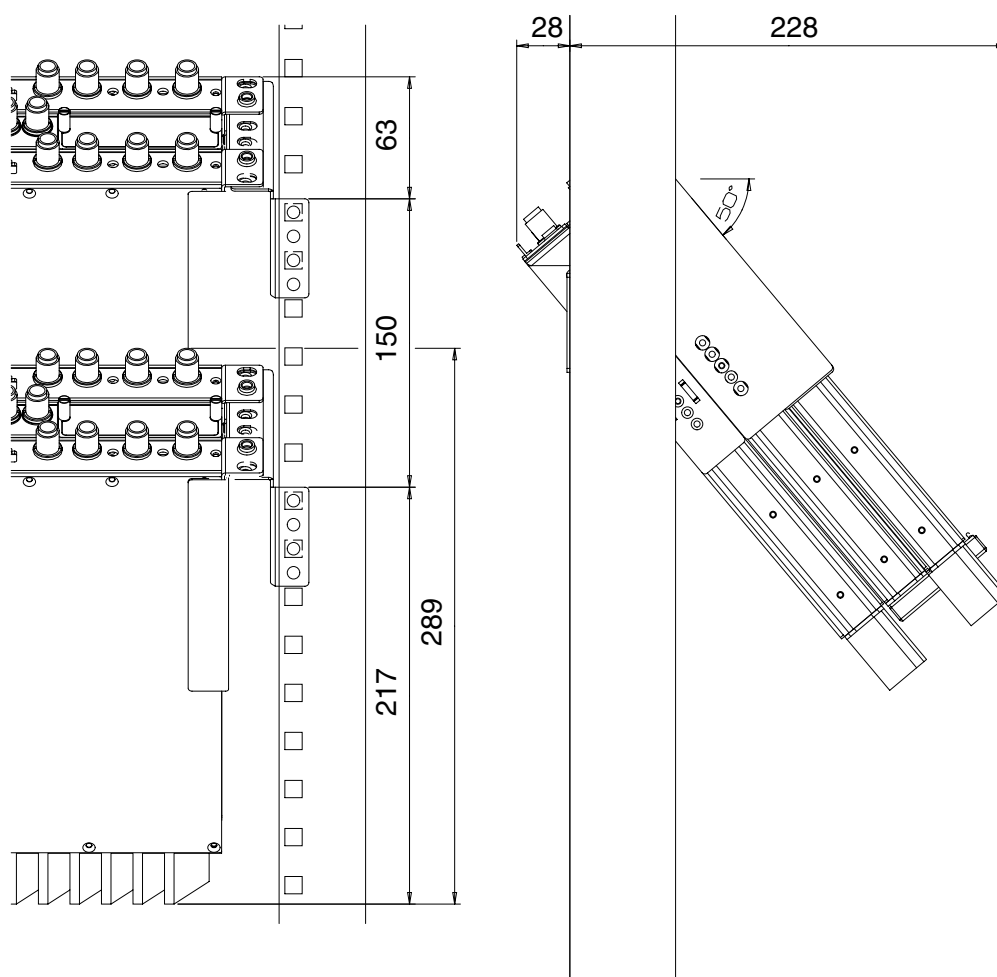

Figure 7. FIU 19 in a 600 x 300 mm ETSI rack
The space taken by the FIU 19 (E) units in the rack is shown in Figure 7. Two FIU 19 (E) units with 4 - 12 x 2M capacity or one FIU 19 (E) with 16 x 2M capacity can be installed per a set of adapter brackets.